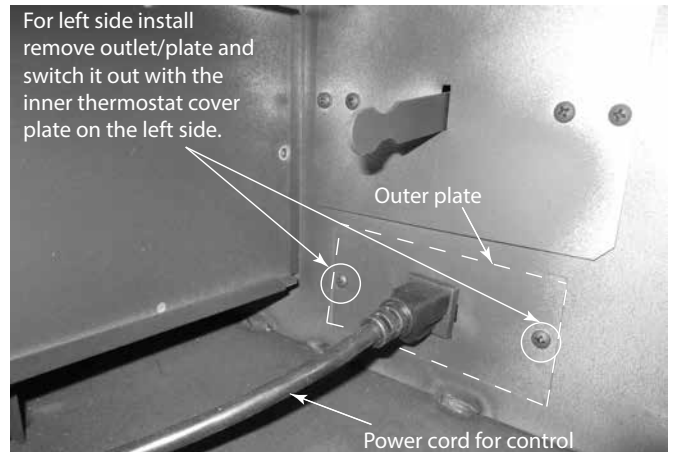
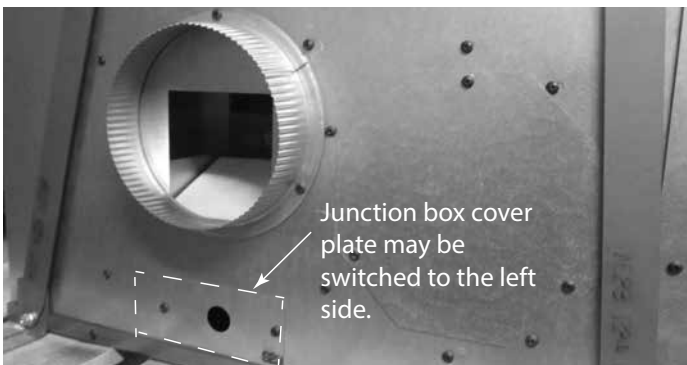

Figure 4.4 Junction Box Shown on Right Side
Figure 4.1 Junction Box Cover Plate (Right side shown)
- Remove junction box cover plate on the bottom right side of the fireplace to access the outlet wires. See Figure 4.1 & 4.2. NOTE: The power may enter from either side by switching the cover plates on the outer shell and switching the outlet plate in the bottom access area to the other side. See Figure 4.4.